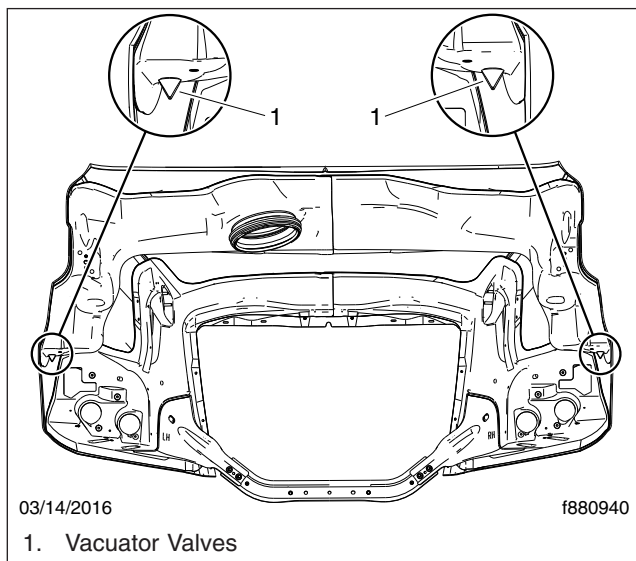

Fig. 22.11, Hood Vacuator Valves (hood interior shown)
- 3.1 Inspect the vacuator valve(s) installed on the hood interior and air cleaner. Make sure the lips of each valve are undamaged and pliable, free of debris, and remain closed during inspection. See Fig. 22.11.